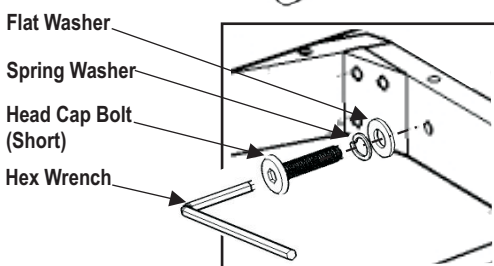
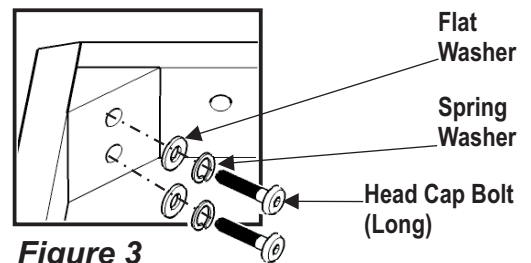

Figure 2
Figure 3
Attach the Back Frame (D) to the unit with Flat Washers, Spring Washers, Head Cap Bolts (Short), Head Cap Bolts (Long) and Wood Screws. (see Figure 2) and (see Figure 3)